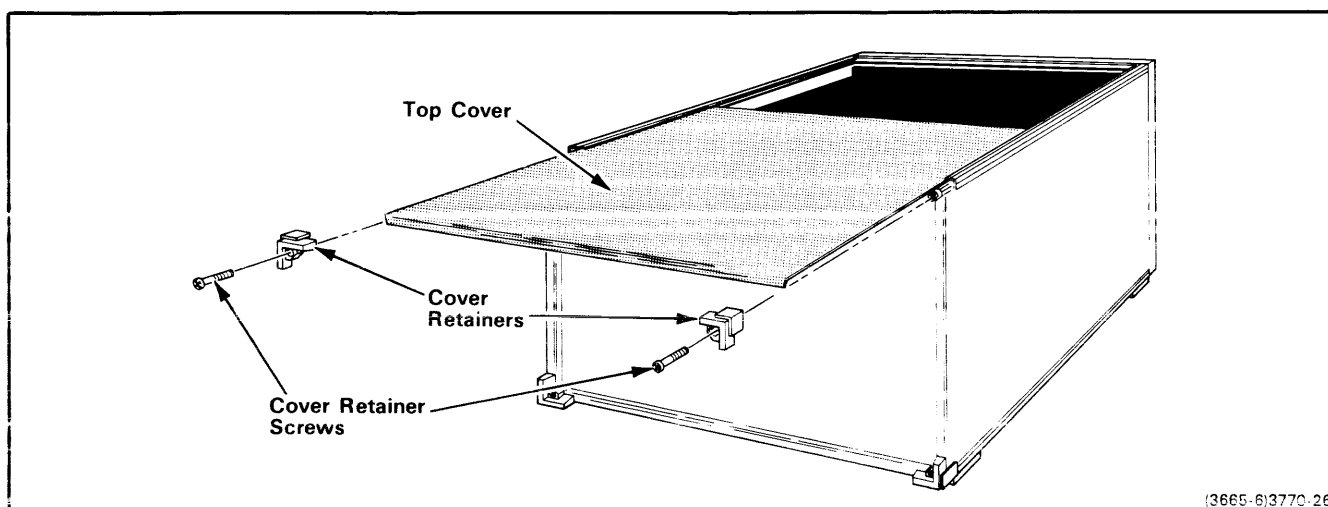

Fig. 9-1. Removal/installation of top cover.
2. Remove the cover retainers at the upper corners on the rear of the mainframe (Fig. 9-1).
20. Install the cover retainers at the upper corners on the rear of the mainframe (see Fig. 9-1). Tighten the cover retainer screws securely.